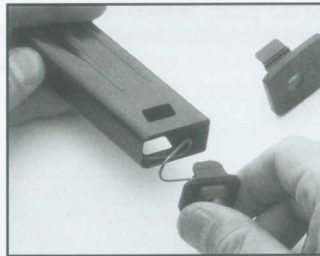

Figure 11
4. **Gradually** allow the locking insert and magazine spring to expand out of the magazine housing. (see Figure 11)